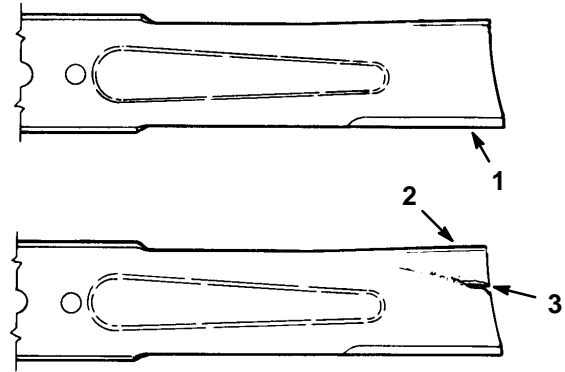

Figure 21
2. Inspect the cutting edges (Fig. 21). If the edges are not sharp or have nicks, remove the blade(s) and sharpen them; refer to Sharpening the Blade(s), page 15.
3. Inspect the blade(s), especially the curved area (Fig. 21). If you notice any damage, wear, or a slot forming in this area (Fig. 21), immediately install a new blade.